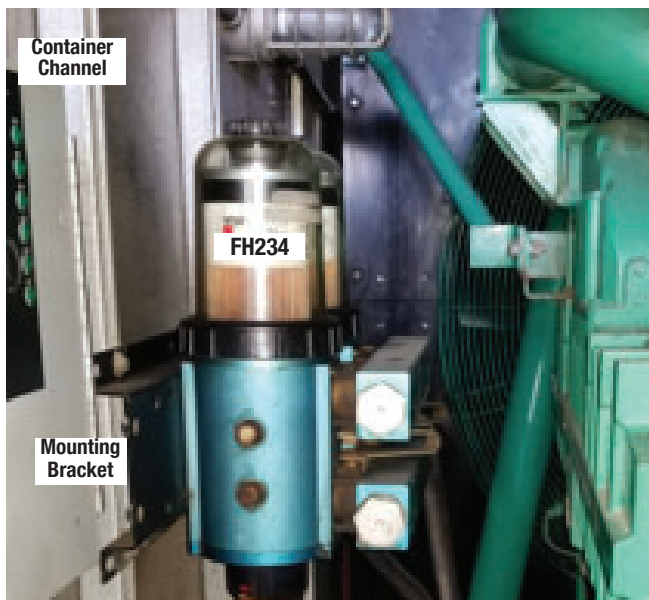

Figure 1: Before 500 SE Upgrade
1. Locate the FH234 fuel filter module and disconnect fuel lines from the inlet/outlet (see figure 1).